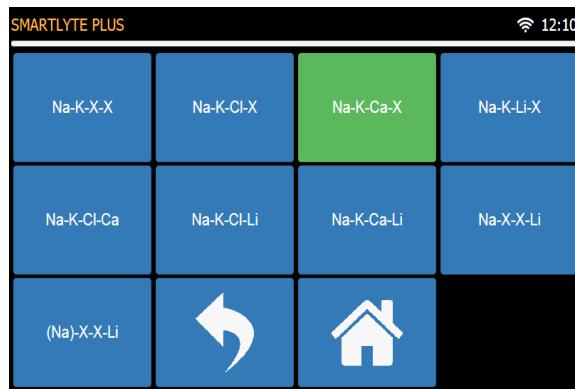

Figure 1-25 Electrode configurations
TIP: See Figure 1-25 for possible configuration of electrode.
- Possible parameter configurations are shown below (Figure 1-25).